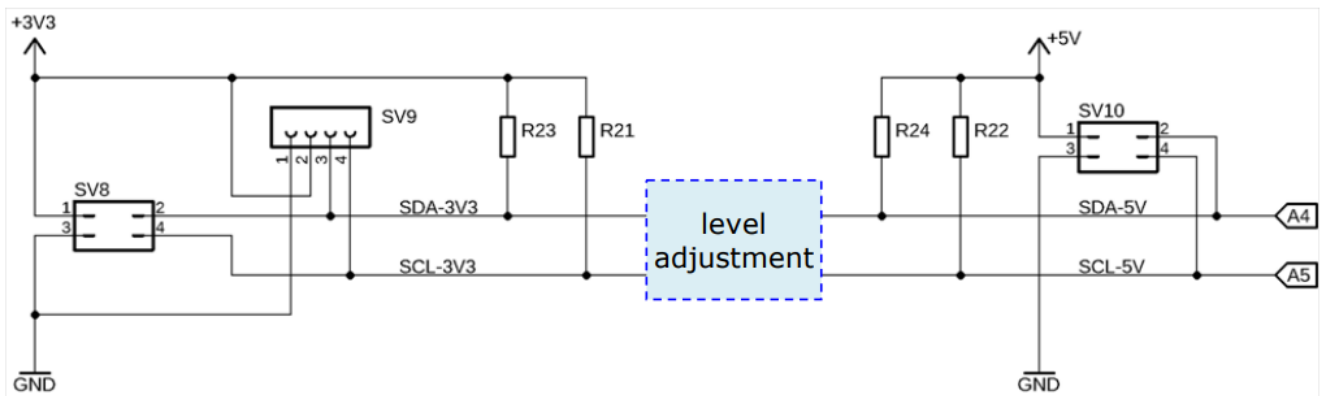

Figure 20: The TWI (=I2C)-Interface on the MCCAB Training Board
Via the pin headers SV8, SV9 and SV10 (arrows (15), (16) and (14) in Figure 1) the user can establish a serial I²C = Inter-Integrated Circuit) of the microcontroller on the training board with external I²C connection (I2C modules). In the data sheet of the AVR microcontroller ATmega328P the I2C interface is called TWI (Two Wire Interface). The wiring of the three connectors is shown in Figure20.
C modules with +3.3 V operating voltage are connected to SV8 or SV9. A level adjustment stage on SV8 and SV9 reduces the 5 V signal level of the AVR microcontroller ATmega328P to the 3.3 V signal level of the external modules. The I 2 C interface consists only of the two bidirectional lines SDA (Serial Data) and SCL (Serial Clock). For better distinction, in Figure 20 the lines SDA and SCL are marked with the suffix 5V before the level adjustment stage and with the suffix 3V3 after the level adjustment stage. The AVR microcontroller ATmega328P has a hardware TWI (Two Wire Interface, functionally identical to the I 2 C interface) on its chip, whose signals SDA and SCL can be connected inside the microcontroller chip to the GPIOs A4 and A5 on the pin header SV6 (arrow (7) in Figure 1).